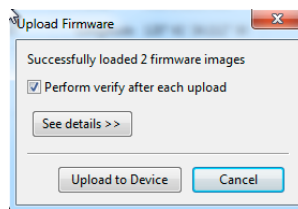

Figure 7.25: Uploading Firmware in the 1202B/C
2. Select the file and click **Open** and a smaller Upload Firmware window should appear (see Figure 7.25).